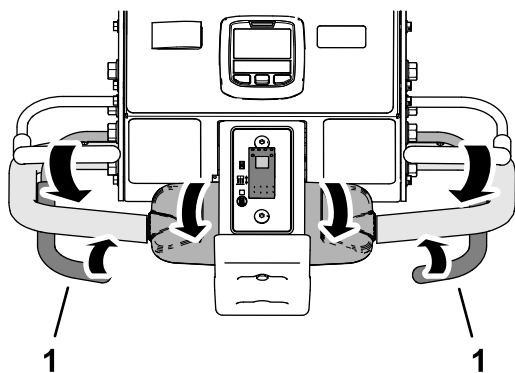

Figure 90
3. As the front tire rolls over the perimeter of aeration area, close either the left or right the aerate bail (Figure 90).